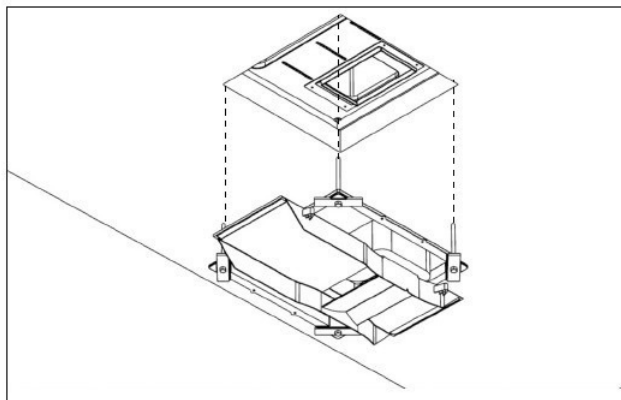

Fig 11: Raise the duct assembly up to the roof hole, ensuring the paper extension duct work forms a tight fit around the spigot underneath the unit.
- Turn the assembly over and add the extension duct to the top of the assembly (Fig 11).
- Raise the brace assembly and slip the extension duct over the outside diameter of the adapter underneath the rooftop unit. (Fig 11 & 12).